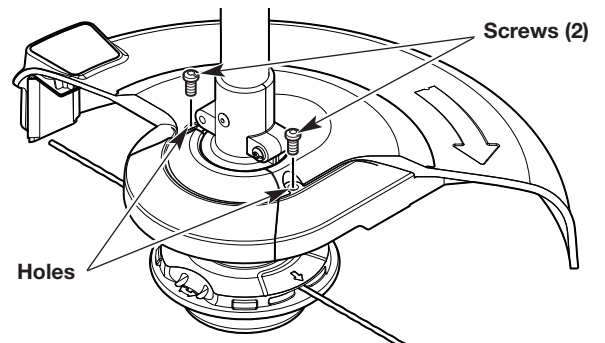

Fig. 3
3. Align the holes in the rear shield section with the holes in the front shield section (Fig. 3).
4. Insert the 2 screws through the aligned holes (Fig. 3). Turn the screws until they are finger tight.